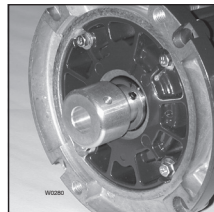

Figure 3
1. After installing new diaphragms, prime the hydraulic cells by using the shaft rotator to rotate the pump shaft (Figure 3).